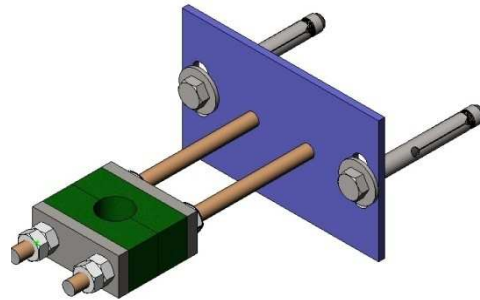

fig. 20
- A stem support-guide is recommended (fig. 20) every 1.5 m.